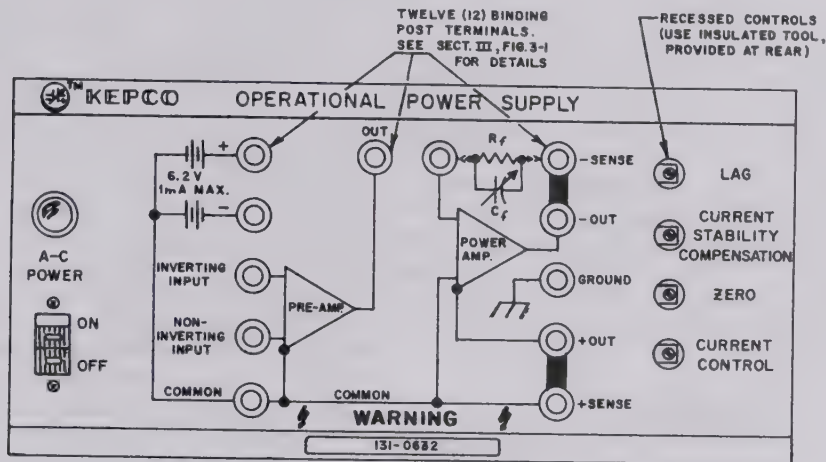
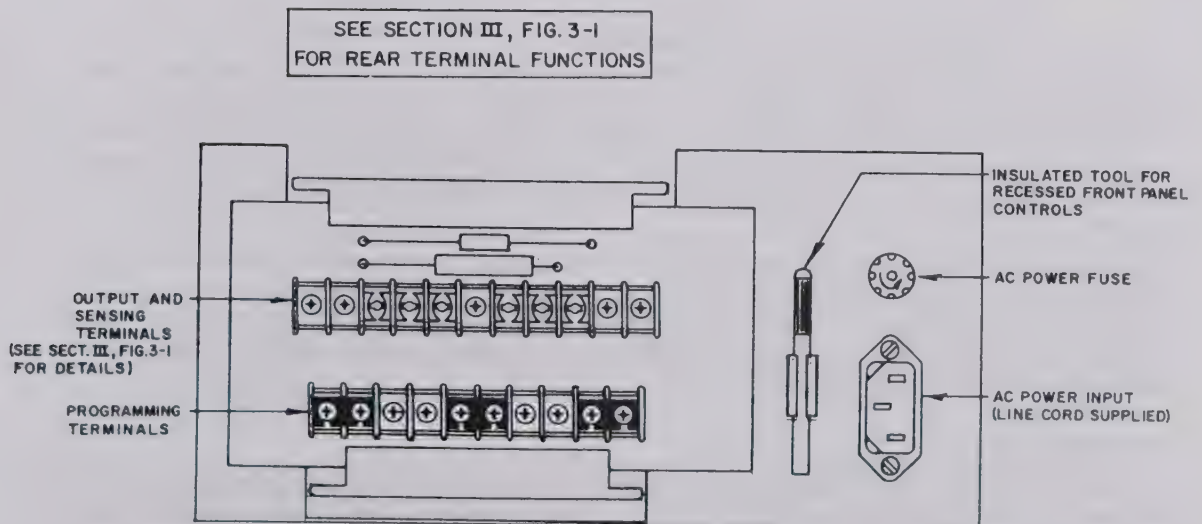

FIG. 2-1 FRONT PANEL, OPS GROUP IX MODELS.
FIG. 2-2 REAR TERMINATIONS, OPS GROUP IX MODELS.
- FRONT PANEL: Refer to FIG. 2-1.
- REAR: Refer to FIG. 2-2.
- 2-12 A simple operating check, after unpacking and before permanent installation, is advisable to ascertain whether the OPS has suffered damage resulting from shipment. Refer to FIG. 2-1 and FIG. 2-2 for the location of the operating controls and the rear terminals.
- 3-13 VOLTAGE PROGRAMMING, PROCEDURE (Refer to Section II, FIG. 2-1 or FIG. 2-2 for the location of all internal controls)
3-14 CALIBRATION (Refer to Section II, FIG. 2-1 or FIG. 2-2 for the location of all internal controls)